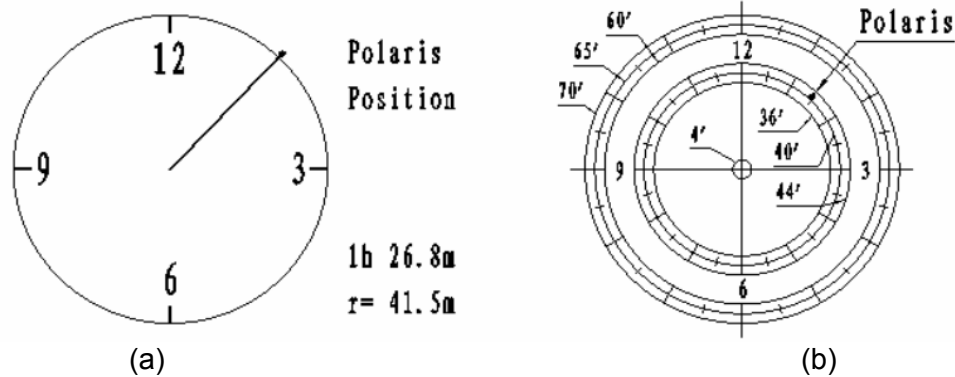

Figure 20. Polaris Position shown on HC (a) and where to put on polar scope dial (b)
- (3) Turn on the mount power by pressing the **On/Off** switch on the main unit. Make sure that the time and site information of the hand controller is correct. Press the **MENU** button, then select "**Align**" and "**Pole Star Position**" to display the current Polaris position. For example, on May 30, 2010, 20:00:00 in Boston, United States (Lat N42°30'32" and Long W71°08'50", 300 min behind UT, DST set to Y), the Polaris Position is 1hr 26.8m and  $r = 41.5m$ , as shown in Figure 20 (a).
- (4) Look through the polar scope to find the Polaris. Using Azimuth Adjustment Knob and Latitude Adjustment Knob to adjust the mount in altitude and azimuth directions and put the Polaris in the same position on the Polar Scope Dial as indicated on the HC LCD. In this case, the Polaris will be located at a radius of 41.5' and an angle of 1 hour 26.8 minute, as shown in Figure 20 (b).